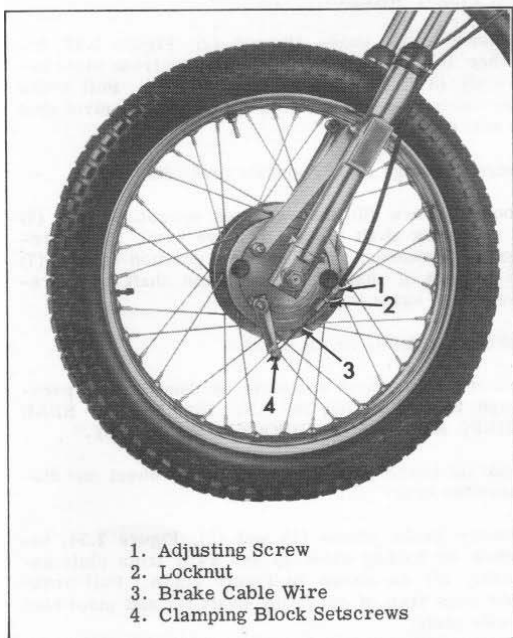

Figure 2.30. Front Brake Adjustment
Refer to Figure 2.30 while performing following adjustment.
Readjust front wheel brake when required. When properly adjusted, hand lever on handlebar will move freely about 1/8 its full movement before brake starts to take effect. If adjusted tighter, brake may drag. Minor adjustment can be made by loosening locknut and turning knurled nut located at handlebar on handlebar. Retighten locknut. If adjustment cannot be obtained at handlebar, loosen locknut (2), Figure 2.30, on control adjusting screw (1); turn adjusting screw down to increase free movement of handlebar, or up to decrease free movement of handlebar. When brake is adjusted properly, tighten locknut (2) securely. Major adjustment of cable and lever can be made by loosening clamping block setscrews (4) and changing position on cable wire (3).
To remove front brake cable, cable wire must be detached both at handlebar lever and at front wheel hub. Detach at front wheel hub by loosening clamping block setscrew (4), Figure 2.30, allowing wire to be pulled free. Detach at handlebar lever as explained in paragraph titled, "REMOVING AND REPLACING CABLES FROM HANDLEBAR LEVERS."